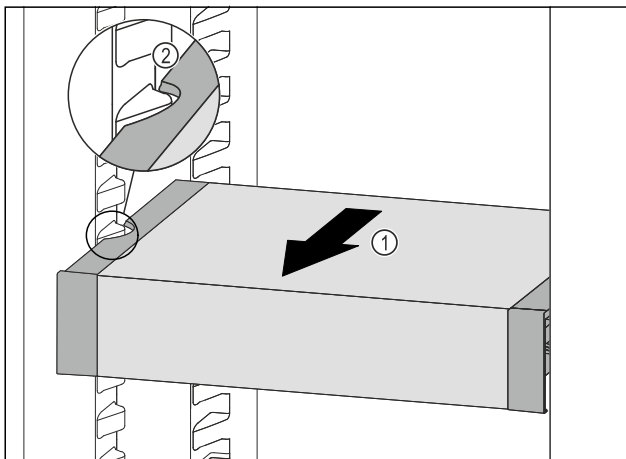

Fig. 138
- ▶ Pull VarioSafe forwards Fig. 138 (1) until the recesses in the side of the VarioSafe are at the level of the support rib in the fridge section. Fig. 138 (2)